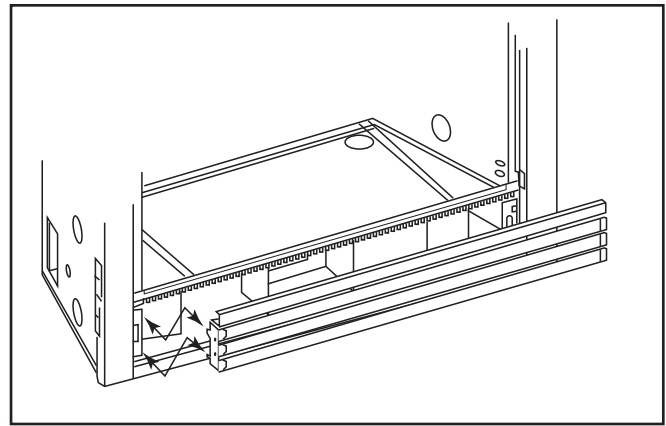
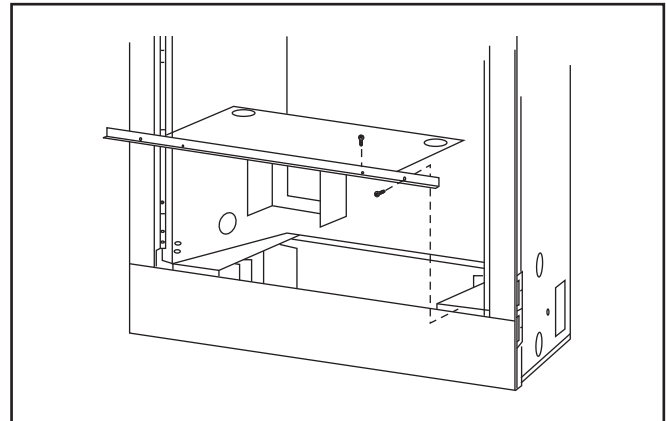

Figure 3
Figure 4
1. The four (4) Velcro strips are used to insulate blower vibration when using mounting bracket. Be sure to leave in place.
2. For louvered units, remove the lower access door. The blower will slide through the lower door opening. Figure 3. For radiant units, remove the screws securing the center firebox floor and front lip. The blower slides in through the floor opening. Figure 4
1. For louvered units, remove the lower access door. The blower will slide through the lower door opening. Figure 3. For radiant units remove the screws securing the center firebox floor and front lip. The blower slides in through the floor opening. Figure 4